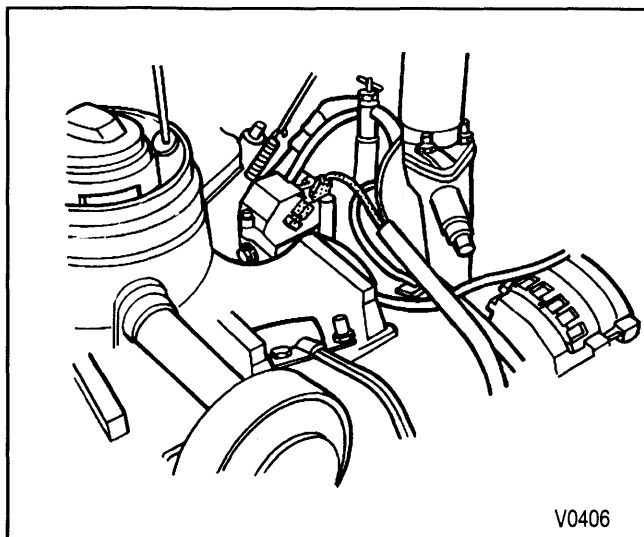

Figure 1—Fuel Solenoid Wire
2. Disconnect the pink wire (1) from the fuel solenoid terminal of the injection pump (figure 1).
2. Disconnect the injection pump fuel solenoid lead on the top of the injection pump (figure 1).